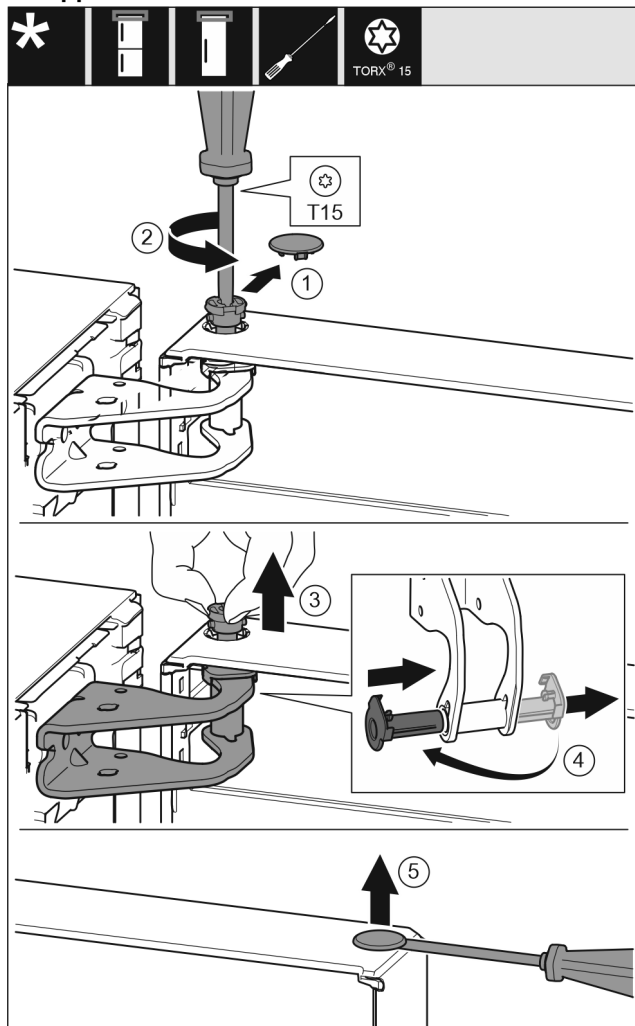

Fig. 8
- Carefully remove the protective cover. *Fig. 8 (1)*
- Loosen the bolts slightly with a T15 screwdriver. *Fig. 8 (2)*
- Hold the door and remove the bolts with your fingers. *Fig. 8 (3)*
- Pull the bearing bush out of the guide. Insert from the other side and latch into place. *Fig. 8 (4)*
- Carefully lift the plugs out of the door bearing bush with a slotted screwdriver and remove them. *Fig. 8 (5)*